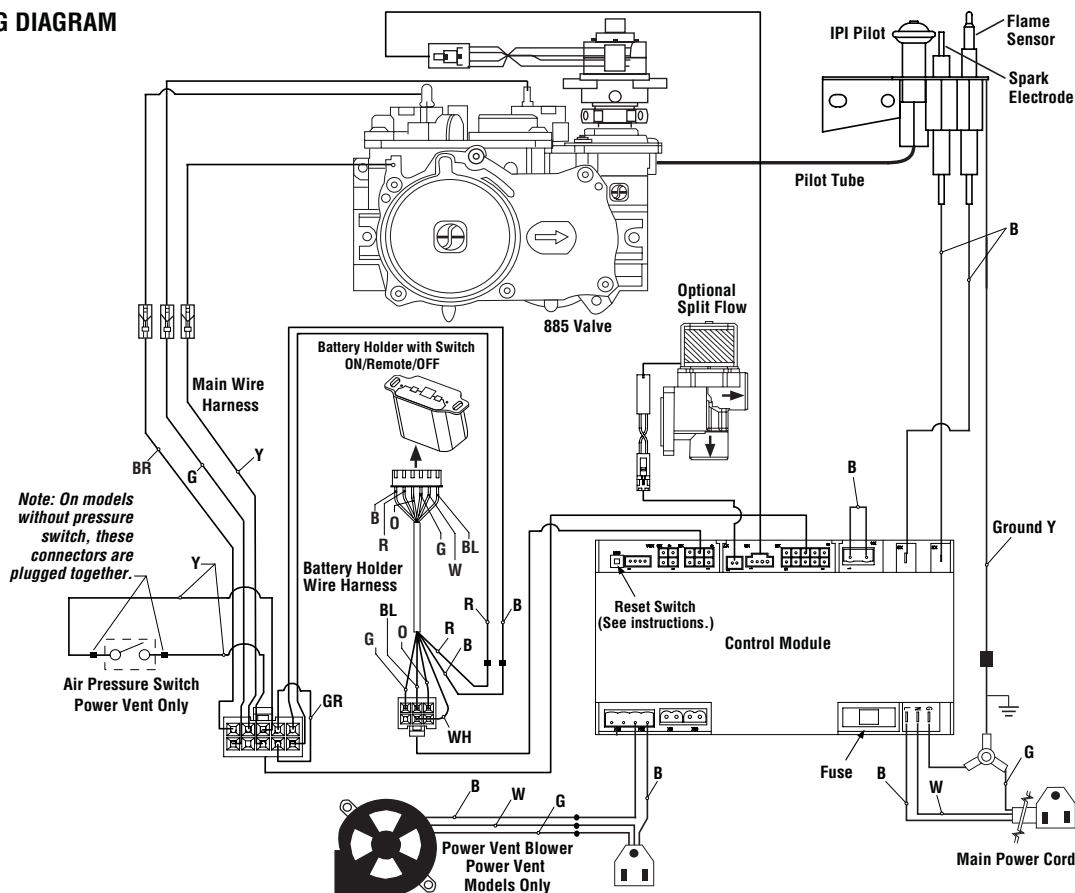

Figure 27 - Electronic Wiring Diagram
CAUTION: Ground supply lead must be connected to the wire attached to the green ground screw located on the outlet box. See *Figures 27 and 28 on Page 21*. Failure to do so will result in a potential safety hazard. The appliance must be electrically grounded in accordance with local codes or, in the absence of local codes, the (USA) National Electrical Code, ANSI/NFPA 70 - latest edition, or the Canadian Electrical Code, CSA C22.1 - latest edition.
Wiring - Fireplace (See Figures 27 and 28 on Page 22)
4. Connect the black power supply to the **power outlet** red pigtail lead and the white power supply to the **common** terminal of the outlet as shown in **Figures 27 and 28 on Page 22**.